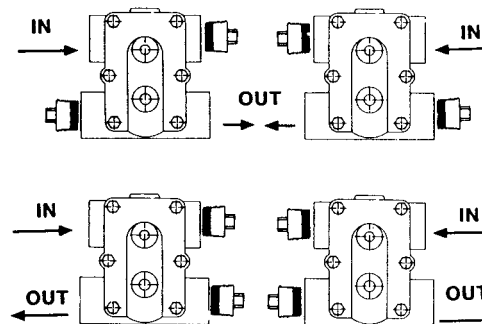

FIGURE 2
3. Pipe plugs included separately must be placed in the two unused connections on all 3/4", 1" and 1 1/4" FTN 15 and FTN 30 traps. (see Figure 2)